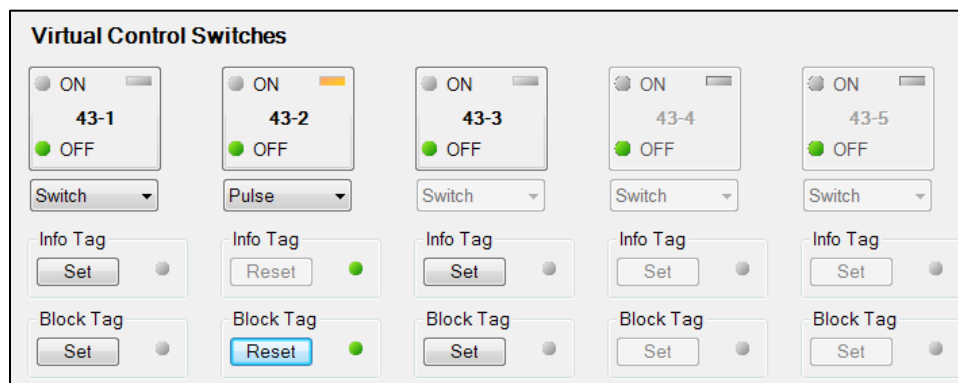

Figure 14-1. Virtual Switches Control Screen
1. Use the Metering Explorer to open the Control/Virtual Switches tree branch (Figure 14-1).
2. If Switch/Pulse mode is selected on the Virtual Control Switches (43) settings screen in BESTCOMSPlus, use the drop-down box to select either Switch or Pulse.
Tagging of virtual control switches can be accomplished through the front panel and through BESTCOMSPlus. Use the Metering Explorer in BESTCOMSPlus to open the Control/Virtual Switches tree branch. Click on the Set button for Info Tag or Block Tag. If tagging is successful, the indicator to the right of the Set button will turn green. A tagged switch is indicated by an amber indicator in the upper right corner of the element button. Click on the Reset button to clear a tag. Refer to Figure 14-1.